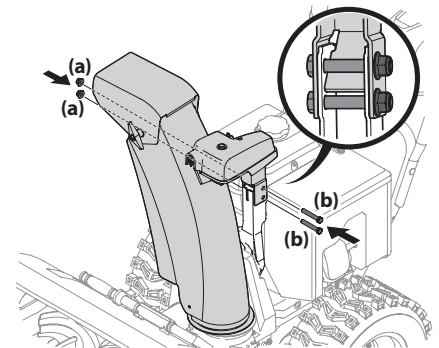

Figure 2-22
2. Place chute assembly onto chute base and chute control head onto chute support bracket. See Figure 2-22.
3. Secure chute control head to chute support bracket with lock nuts (a) and hex screws (b) removed in Step 1. See Figure 2-22